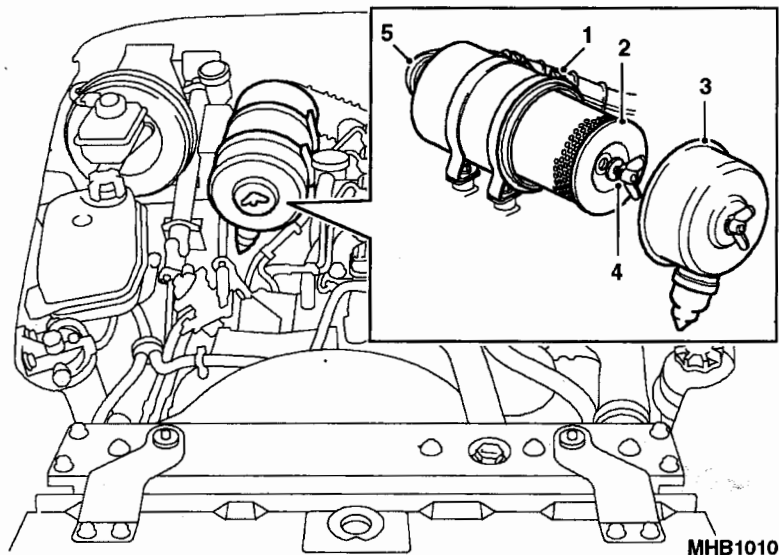

Fig 14 To renew the air cleaner element - Coopers
- 17.1 Slacken the clip (Fig 14 (1)) and if required, disconnect the hose (5) from the air cleaner.